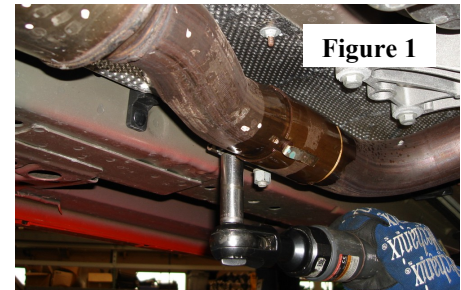
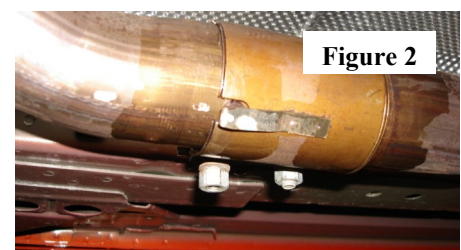

Figure 1
Figure 2
1. On each exhaust pipe behind the catalytic converter, unbolt the clamp (figure 1) using a 15mm socket. Unbend the metal tab (figure 2) on each pipe.